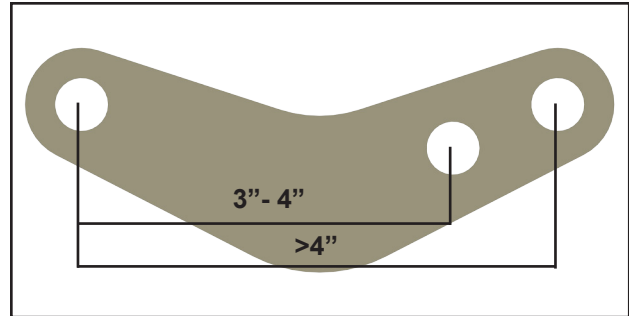

Fig.3
7. There are a wide variety of equalizers being used throughout the industry. Due to the fact there are so many, it is normally necessary to replace the original shackles with longer ones. LCI provides 2 sets of shackle plates (4 plates each) that offer two different length settings as well as (14) replacement shackle bolts and (14) flanged nuts. If the original shackle measures between 3" and 4", use the short set of holes on the replacement shackles (**Fig. 3**). If the original shackle measures longer than 4", use the longer set of holes on the bracket (**Fig. 3**).